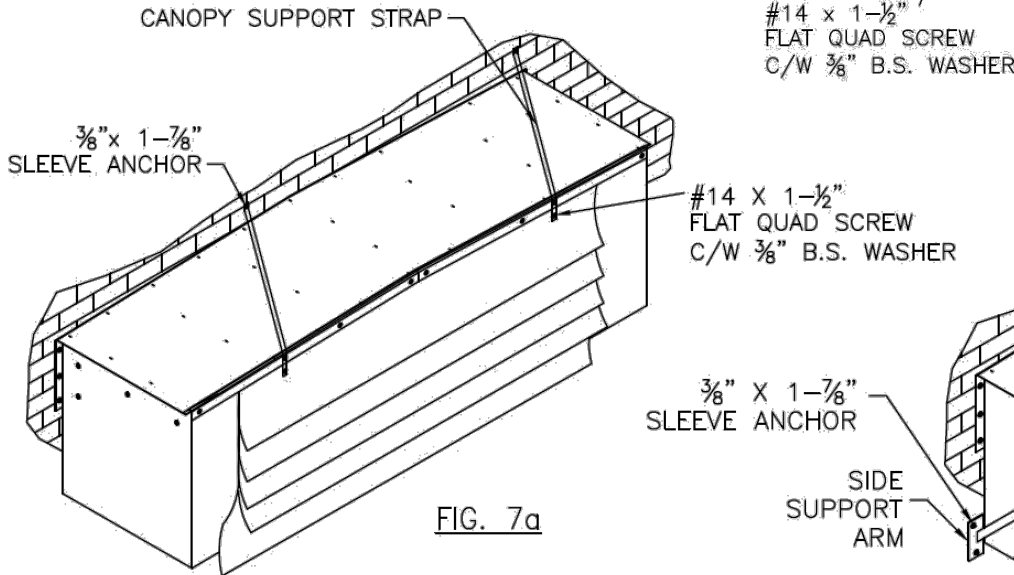

FIG. 7a
- i. Screw support straps to front of canopy (**Fig. 7a**).